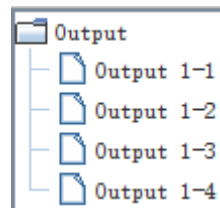

Figure 3.4-5 Outputs for a Video Wall
- **Output interface status:** click the **Outputs** tab, and double click the "Output*" root node, it will show the output interface list, as shown in **Figure 3.4-5**. Connect an output interface with a screen.